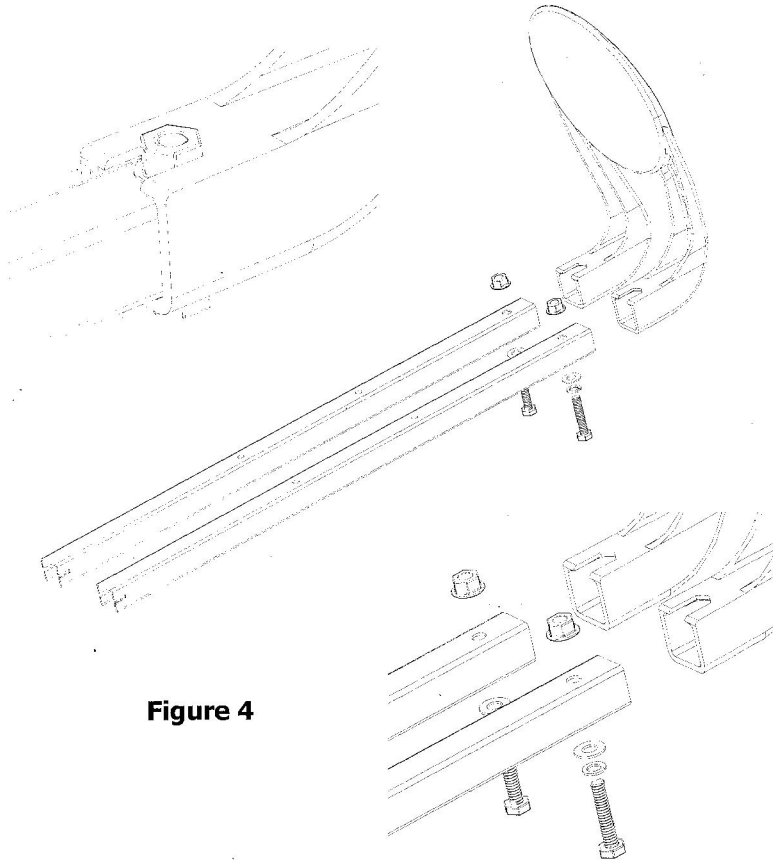

Figure 4
Step 3: Antenna Arm Assembly Slide the Sub-reflector feet over the ends of the Boom arms. Slide a 1/4" UNC Serrated Flange Nut into the encapsulation cutout on top face of the Sub-reflector foot (as shown). For each foot, place a 1/4" UNC Washer and Spring Washer onto a 1/4" x 1 1/4" UNC Hex Head Tap Bolt. Next, pass the Tap Bolt through the bottom of the Sub-reflector foot and Boom arm, then fasten into the encapsulated Flange Nut. Tighten the bolts to 20Nm (177 in.lbf) (**fig 4**).